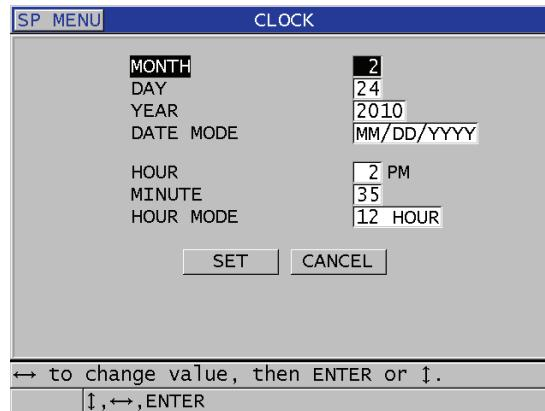

Figure 4-2 Selecting clock parameters
3. In the **CLOCK** screen (see Figure 4-2 on page 45):